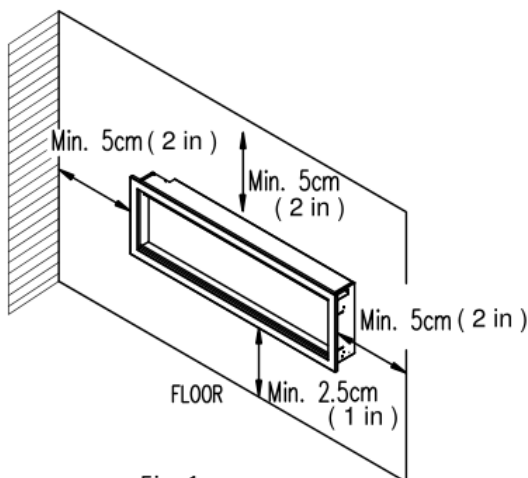

Fig. 1
2. Using a spirit level to select a position in which to mount the heater horizontally. See (Figure 1).